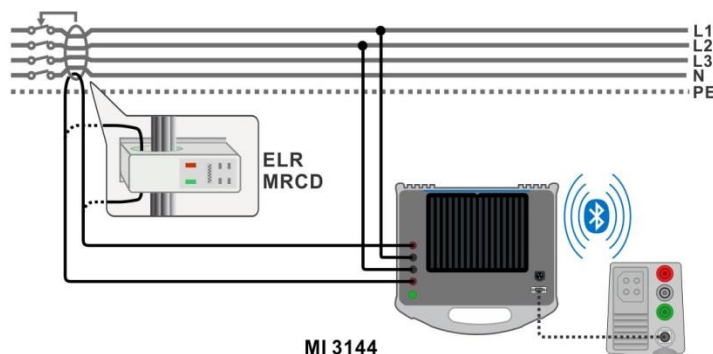

Figure 7.87: ELR Current Injection Test / Combination Time Test connection
- ▶ Connect test leads to the object under test. See **Figure 7.87**.
See **Figure 7.87**.
- › Connect test leads to the object under test. See **Figure 7.87**. Refer to **MI 3144 Euro Z 800 V Instruction manual** for detailed information.